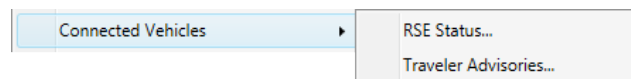

Figure 3-11 – Connected Vehicles Menu
- **Connected Vehicles Menu** (see Figure 3-11): This option allows the operator to configure and control Connected Vehicle Roadside Equipment; the software is described in detail in Section 3.2.6.1.